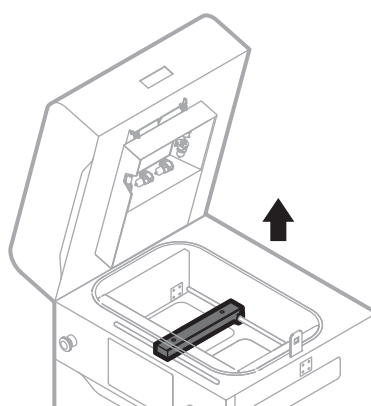

Fig. 2 Removing the black cover.
7. Gently remove the black cover from the Recoater (fig. 2).